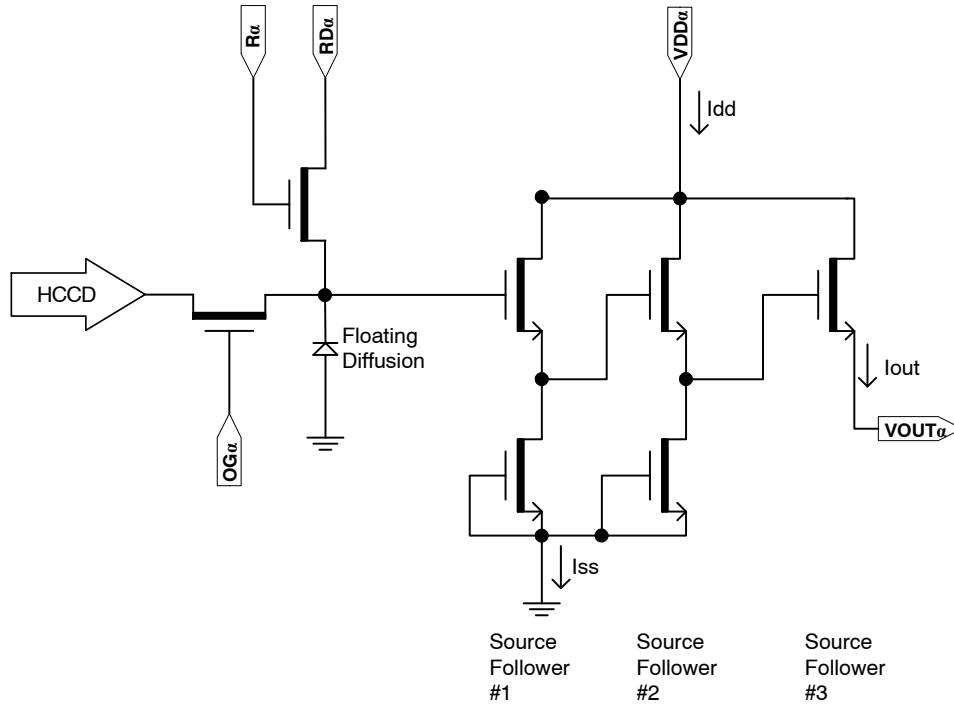

Figure 18. Output Amplifier
- The maximum DC current is for one output. Idd = Iout + Iss. See Figure 18.